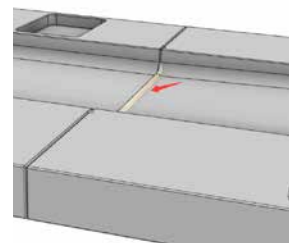

Fig S5
- Clean off any excess sealant at the joint between the shims once snap fit together (Fig. S5).